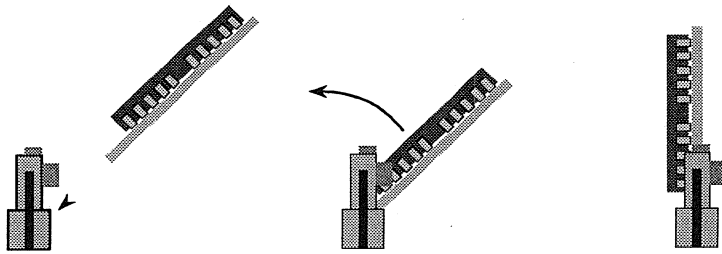
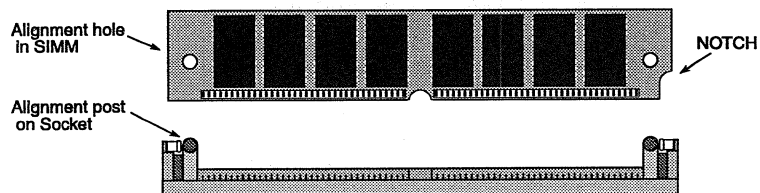

Figure 2-4
Figure 2-5
Step 1: Using both hands, carefully set the SIMM into the socket at a 45 degree angle, tilted towards the ISA slots (refer to Figure 2-1 and Figure 2-4). Do not force it in or damage may result. Note that the SIMM modules are keyed in such a way that they cannot be inserted incorrectly (refer to Figure 2-5). If you are having difficulty placing them into the socket, check to see that you are not attempting to insert them backwards. Do not lock the module into position at this time.